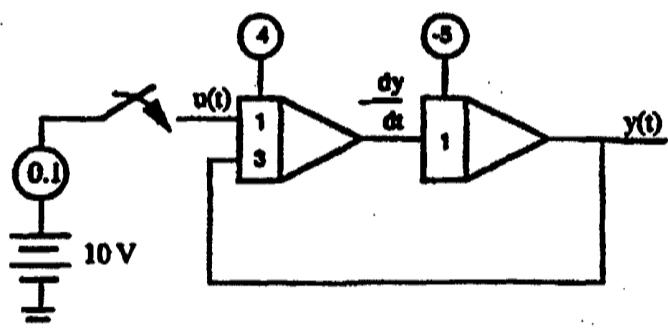
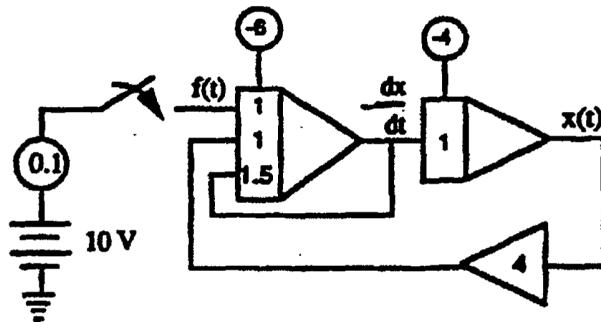

Fig. 9.
Fig. 10.
3. Form all interconnections necessary to complete the diagram. Figure 9 gives the complete computer block diagram after all necessary connections have been made.
4. It is possible to simplify the diagram in Fig. 9 in order to obtain one with the lowest number of components. The important thing to keep in mind here is that if all the loop-gain products are not changed, the same transfer function from the input to the output will result. (This can be proven by Mason's rule) Figure 10 shows the simplified block diagram and the input source which supplies the unit step input.
Following the method outlined above, the computer diagram shown in Figure 10 may be obtained.